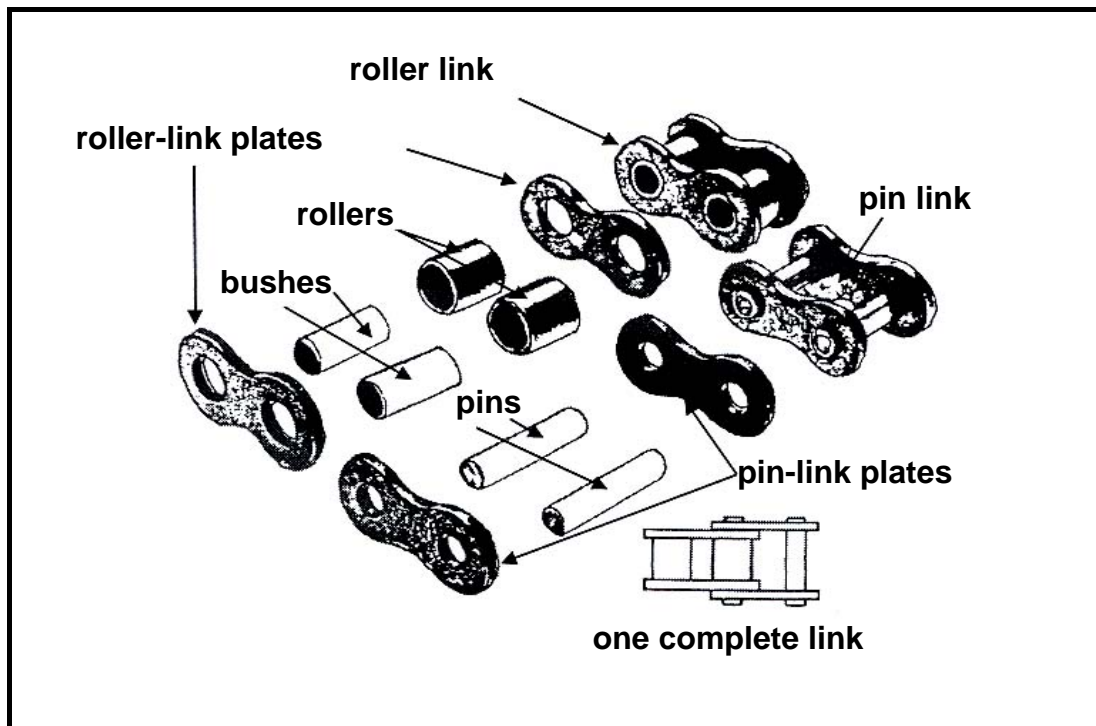

FIGURE 1.5
- D For carrying radial and axial thrust loads (1)
1.15 Which steps are the most suitable when replacing a roller chain on a chain drive system as shown in FIGURE 1.5 below?